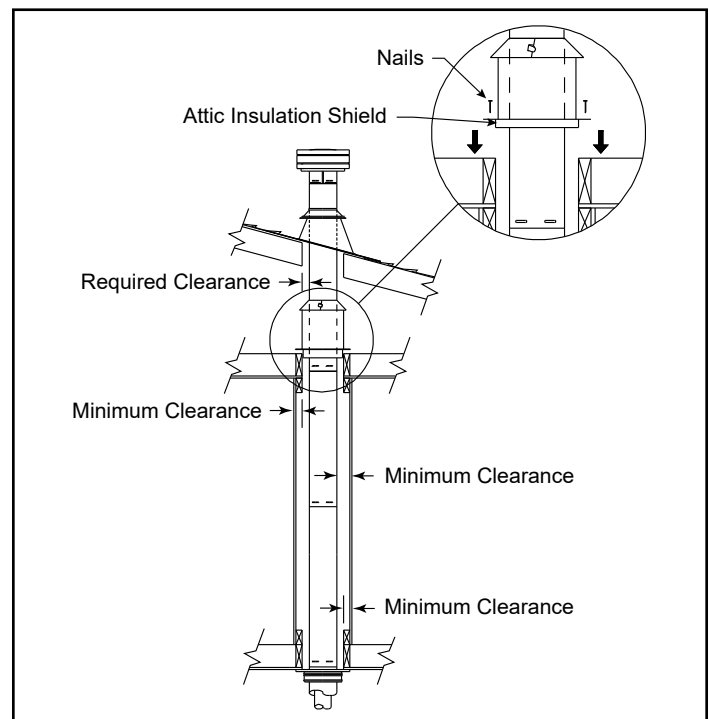

Figure 3.38
3. If venting system passes through an attic space an attic insulation shield must be installed to prevent contact between pipe sections and the insulation. Nail the base to floor of attic and adjust shield for appropriate insulation level, then attach the collar at the top of assembly, Figure 3.38. For vaulted